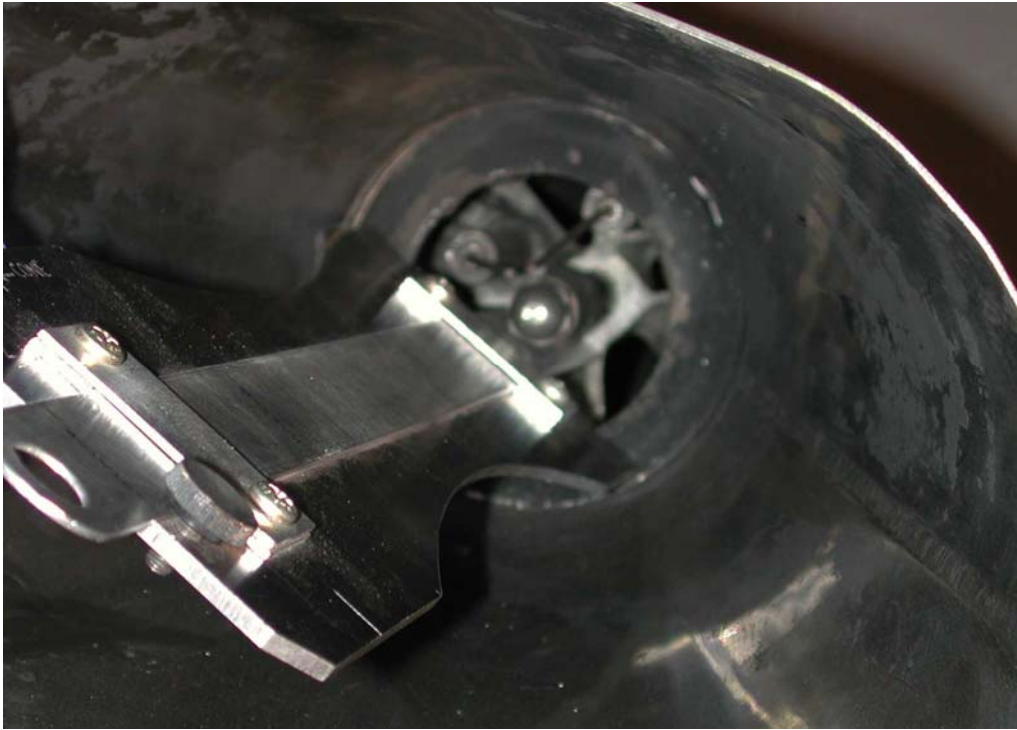

Figure 3: Setting Stator Depth
- Using dipstick, adjust stator depth. See Figure 3.